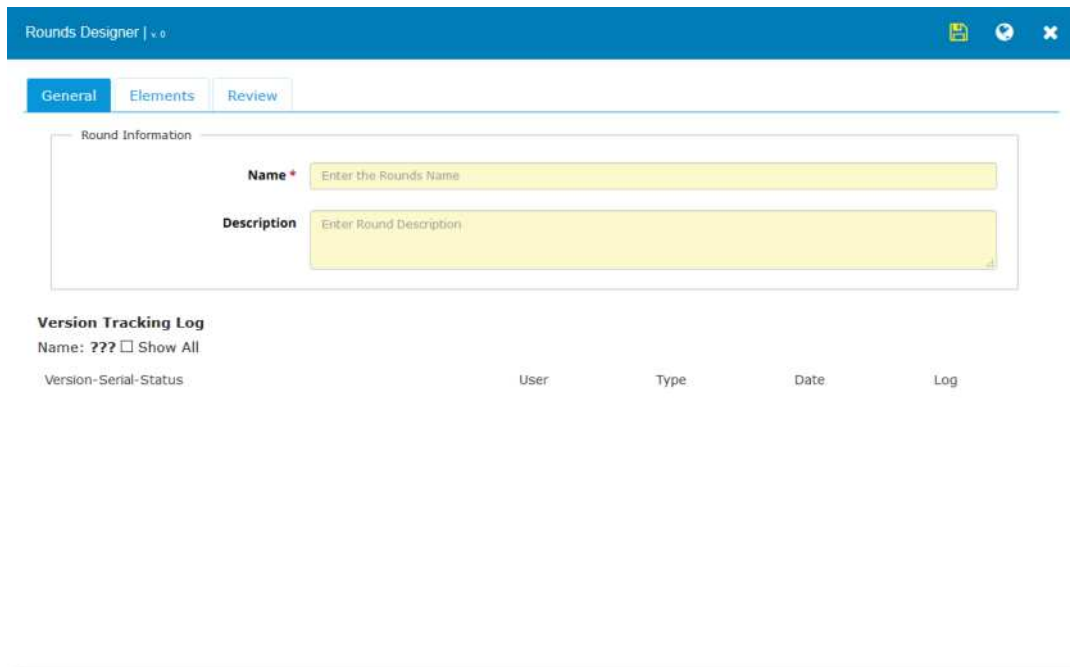

Figure 55 Rounds Designer: General tab
- When it is not, the version tracking log is displayed on this tab, example Figure 55, above. Only the latest version information is displayed unless the **Show All** checkbox is selected.